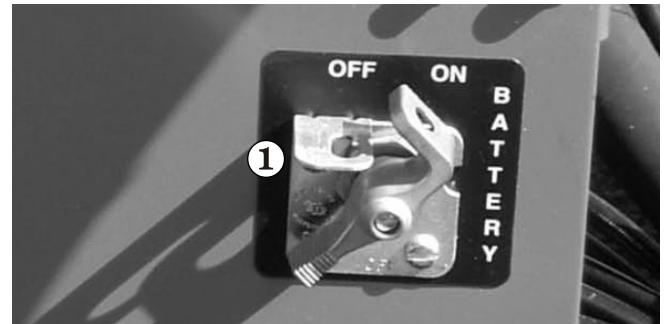

Figure 8.15
1. Set the **Battery** switch ① to on (see Figure 8.15).